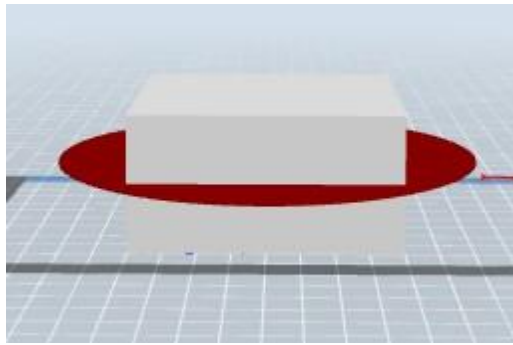

Figure 8 Z plane cutting interface
④ **Z Plane**:As shown in Figure 8.